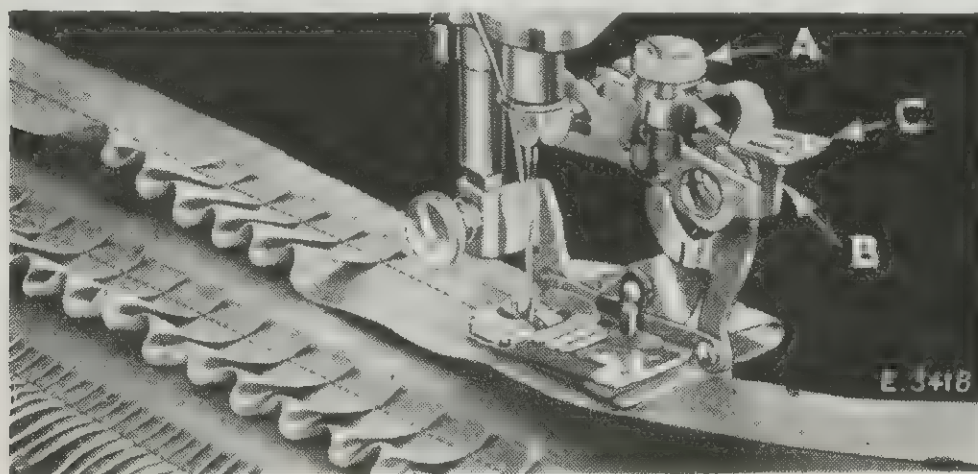

FIG. 35
To omit gathers or plaits, raise the adjusting lever (C, Fig. 35) and move it until the end of the
projection (B, Fig. 35) enters the small depression directly under the star on the adjusting lever (C). As long as the adjusting lever rests on the projection, the ruffling blade will remain inoperative.
To make the gathers or plaits in groups, adjust the ruffler for five stitch ruffling, having as many plaits in each group as desired, then adjust the ruffler to omit making the gathers or plaits. When the desired space has been made, adjust the ruffler back to five stitch ruffling again. By alternately making groups of plaits and plain spaces as shown in Fig. 35, very attractive work can be produced.